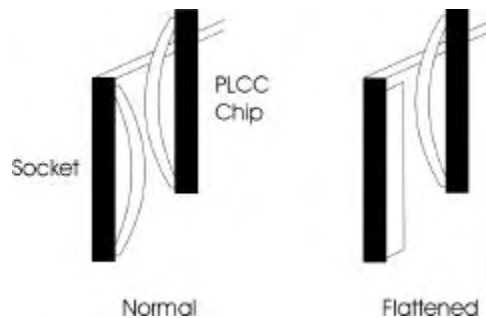

Figure 49. PLCC Socket Pins
- If you are using a PLCC socket, make sure the pins have not flattened out. This tends to occur after repeated adapter insertions (Figure 49).